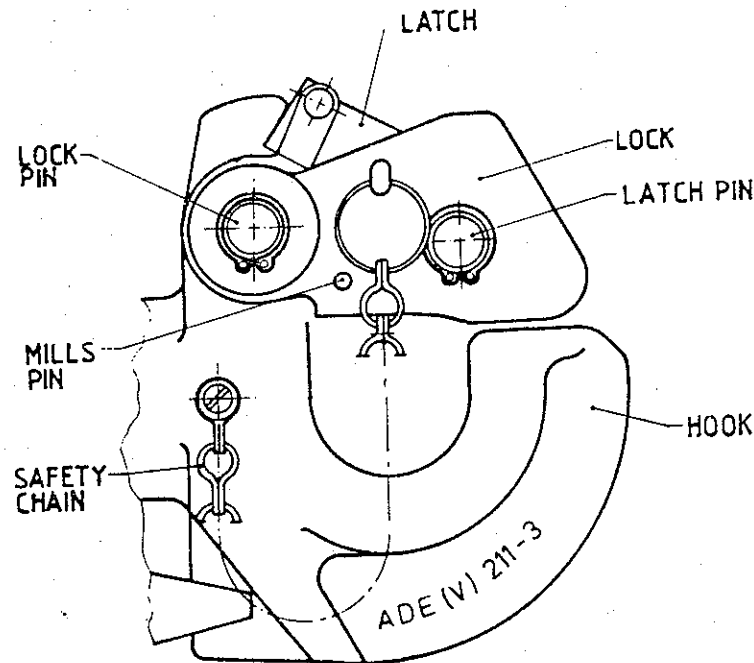

FIG 1 - TOWING PINTLE ASSEMBLY - PARTS IDENTIFICATION
2. The following inspection tasks are to be conducted at each 10,000 km or 6 monthly vehicle service: (identification of the Towing Pintle Hook parts is shown at Fig 1).